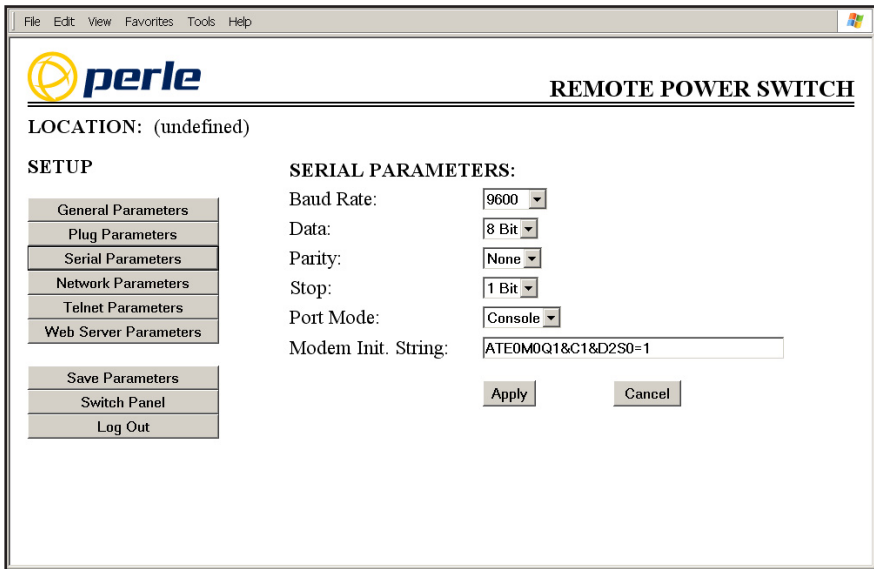
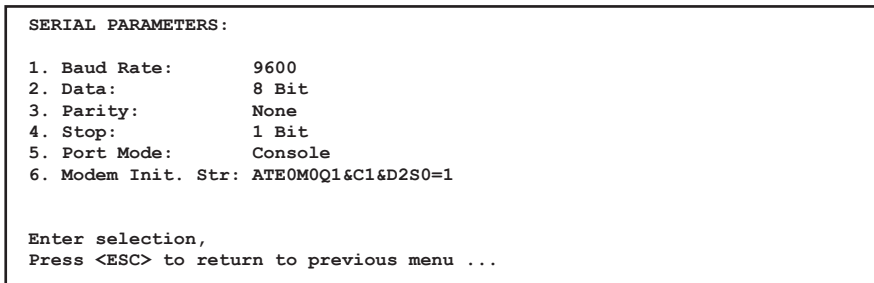

Figure 5.5: Serial Parameters Menu - Web Browser Interface
Figure 5.6: Serial Parameters Menu - Text Interface
- **Web Browser Interface:** Click the "Setup" button to access the Setup Menu, and then click the "Serial Parameters" button. The Serial Parameters Menu will be displayed as shown in Figure 5.5.
- **Text Interface:** Type /C and press [Enter]. The Serial Parameters Menu will be displayed as shown in Figure 5.6.
As shown in Figure 5.5 and Figure 5.6, the Serial Parameters Menus allow you to define the following parameters: